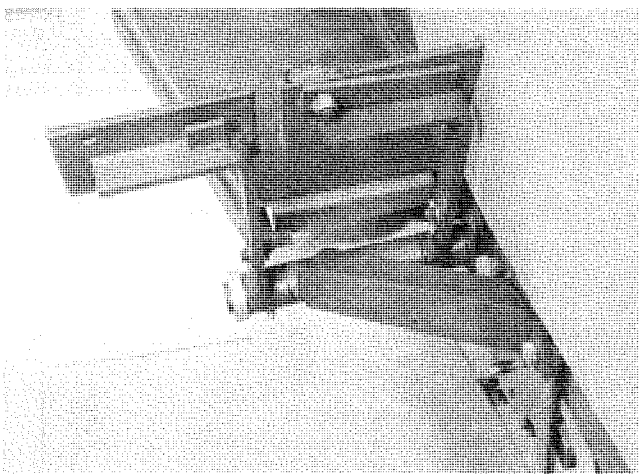

FIGURE 2
Add the RH foot pedal, item 14 and collar, item 17 to the shaft and tighten. See Fig. 2 and Fig. 6.